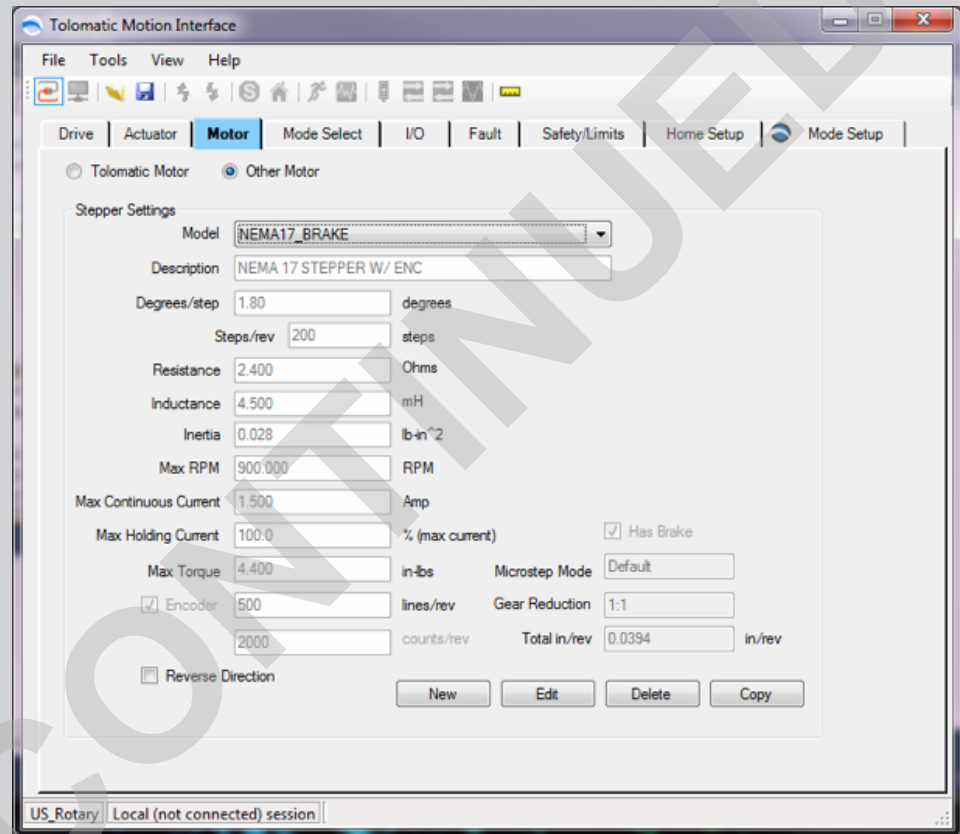

Figure 8-3: Other Motor with no Model Choices Available
1. If no Other Motors have been created there will be no selections under the Models drop down (see Figure 8-3). In this case, the user must click the New button at the bottom of the screen.